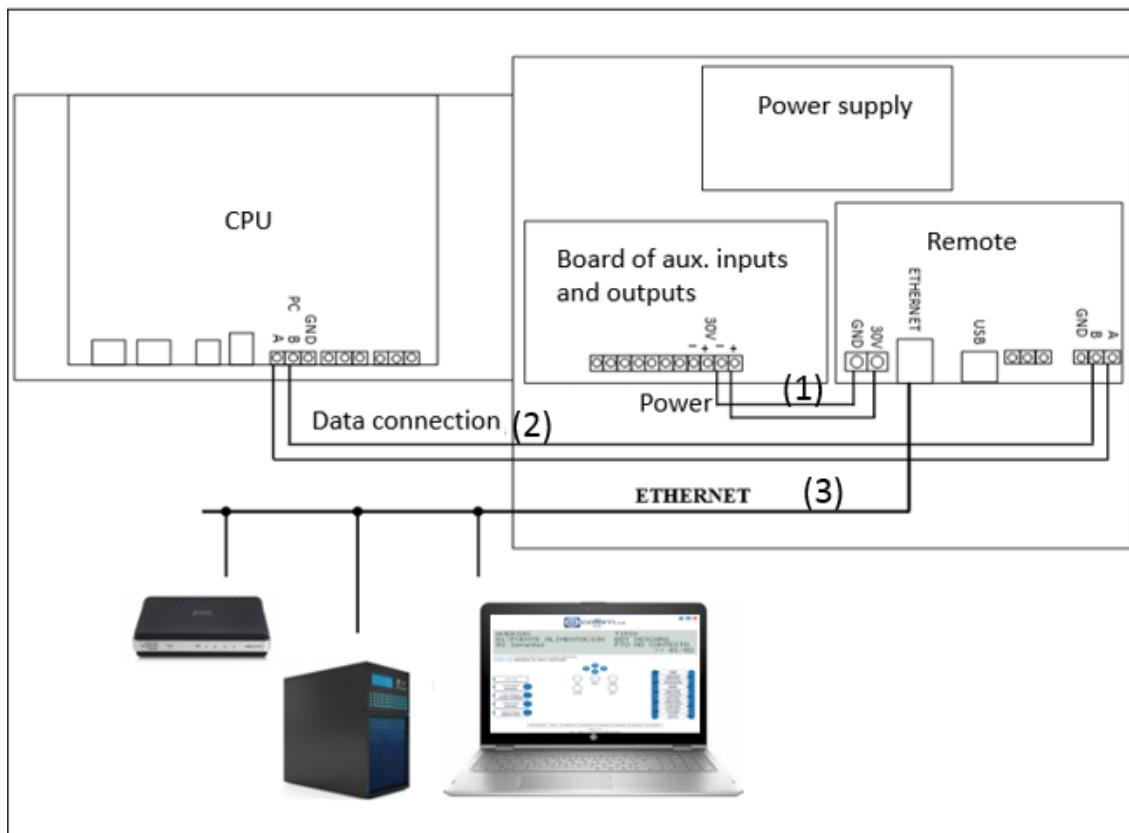

Figure 6. Connection diagram of the Remote card for Zafir and Clyon.
- 4- Finally connect the 30V output power to the Remote card (1), the communication port "COM1" of the Remote card to the "PC" connector of the control panel (2) and the Ethernet cable in the RJ-45 connector (3) as shown in Figure 6.
- 5- Finally connect the 30V output power to the Remote card (1), the communication port "COM1" of the Remote card to the "PC" connector of the control panel (2) and the Ethernet cable in the RJ-45 connector (3) as shown in Figure 6.